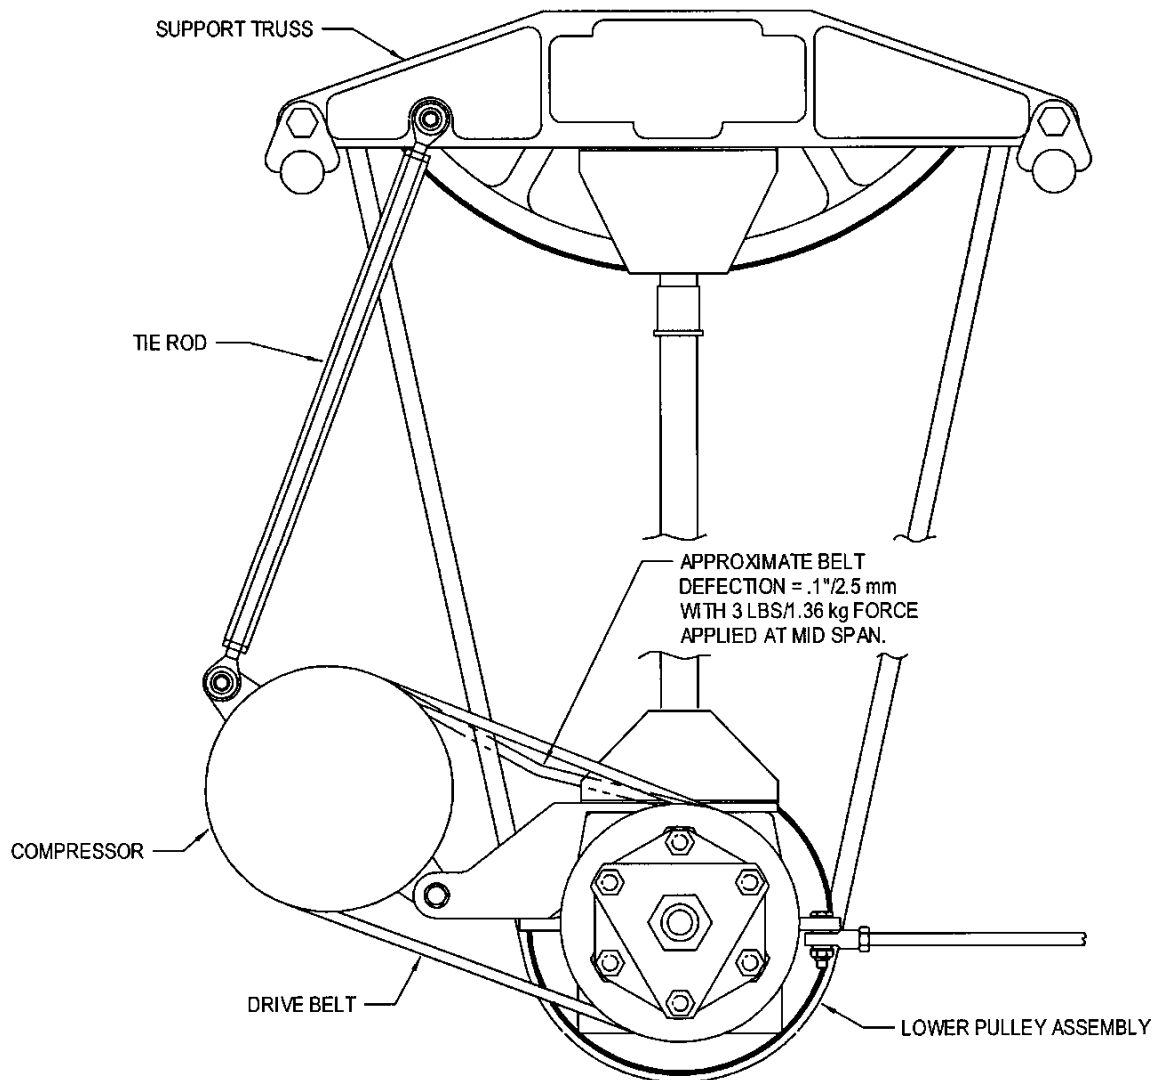

Figure 5-1. Belt Tensioning
- 3) Using a spring scale and a straight edge, adjust the belt tension using the tie rod, located between the compressor and support truss, until the belt deflection is approximately .1" (2.5 mm) with 3 lbs. (1.4 kg) of force applied with the spring scale (Refer to Figure 5-1).